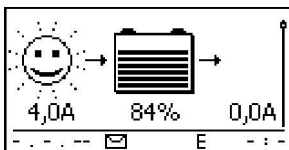
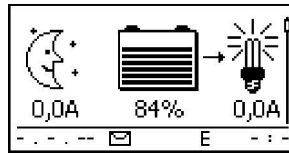

Fig. 13 Display with sunshine after connecting the solar module (possibly delayed)
Fig. 14 Display without sunshine after connecting the solar module
3.  Remove covers from the solar module and, if present, switch on the DC load circuit breaker. The display shows Fig. 13 or Fig. 14.
4.  If Fig. 13/Fig. 14 is not displayed, check the installation and if necessary correct the error on the basis of section 15.